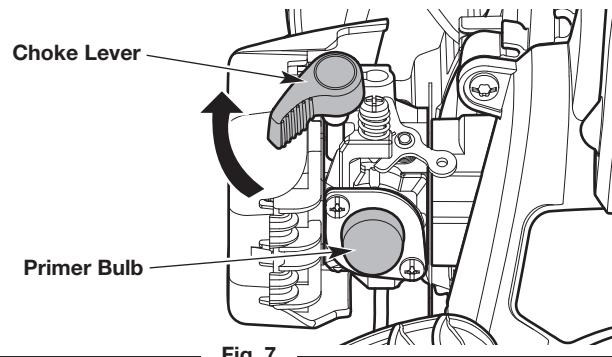

Fig. 7
1. Slowly press and release the primer bulb **10 times** (Fig. 7).
3. Flip the choke lever clockwise until it clicks (Fig. 7).